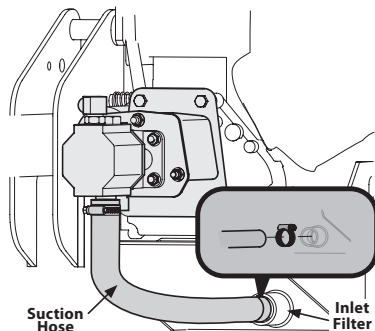
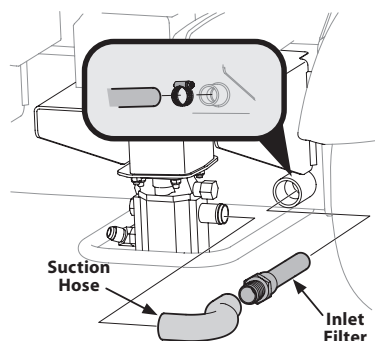

Figure 18
Figure 19
2. If your engine has a horizontal engine set-up shown in Figure 18, see Figure 18 for changing the hydraulic fluid.
3. If your engine has a vertical engine set-up shown in Figure 19, see Figure 19 for changing the hydraulic fluid.
4. Disconnect the suction hose from the bottom of the reservoir tank. See Figure 18 for horizontal engines or Figure 19 for vertical engines.